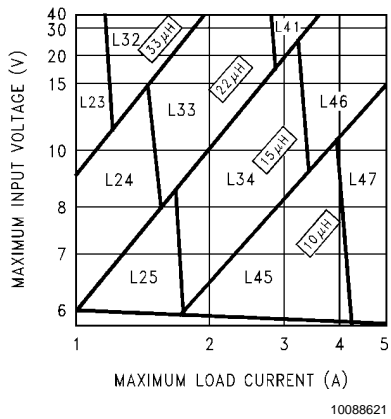
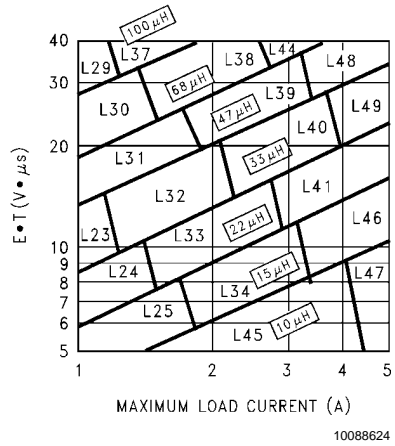

FIGURE 3. LM2678-3.3
FIGURE 6. LM2678-ADJ
Step 3: Determine the inductor required by using one of the four nomographs, Figure 3 through Figure 6. Table 1 provides a specific manufacturer and part number for the inductor.
Step 5: Determine an input capacitor from Table 4 for fixed output voltage applications. Use Table 2 to find the specific capacitor type. For adjustable output circuits select a capacitor from Table 2 with a sufficient working voltage (WV) rating greater than $V_{in\ max}$, and an rms current rating greater than one-half the maximum load current (2 or more capacitors in parallel may be required).
Step 3: Use the nomograph for the 3.3V device, Figure 3. The intersection of the 16V horizontal line ($V_{in\ max}$) and the 4A vertical line ($I_{load\ max}$) indicates that L46, a 15 μH inductor, is required.
Step 3: To use the nomograph for the adjustable device, Figure 6, requires a calculation of the inductor Volt-microsecond constant (E-T expressed in $V \cdot \mu\text{s}$) from the following formula:
Using Figure 6, the intersection of 27V· μs horizontally and the 3.5A vertical line ($I_{\text{load max}}$) indicates that L48, a 47 μH inductor, or L49, a 33 μH inductor could be used. Either inductor will be suitable, but for this example selecting the larger inductance will result in lower ripple current.
Figure 6, selects an inductance of 22 μH or less, Table 6 does not provide an output capacitor solution. With these conditions the number of output capacitors required for stable operation becomes impractical. It is recommended to use either a 33 μH or 47 μH inductor and the output capacitors from Table 6.